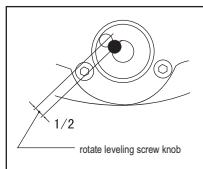

fig.8
1. Rotate the leveling screw knob 9 to ensure the air bubble moving toward to the center of circular bubble vial, the deviation should be at $1/2$ between the center and the end position(see fig.8)